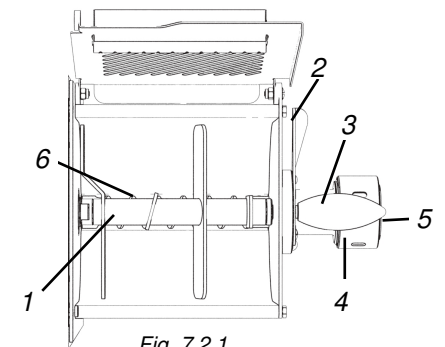

Fig. 7.2.1
1. Put the blade "1" in the position shown in Fig. 7.2.1.
**WARNING!** If the blade is not lying in the position shown in Fig. 7.2.1, it **cannot** be removed.